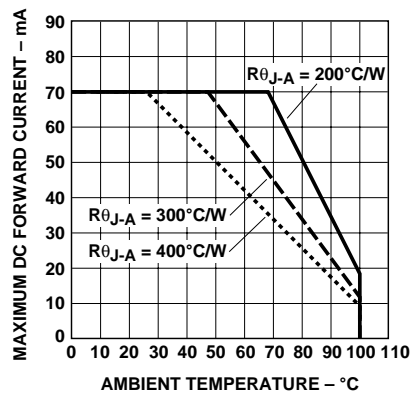

Figure 4. Maximum DC forward current vs. ambient temperature.
1. Derate linearly as shown in Figure 4.